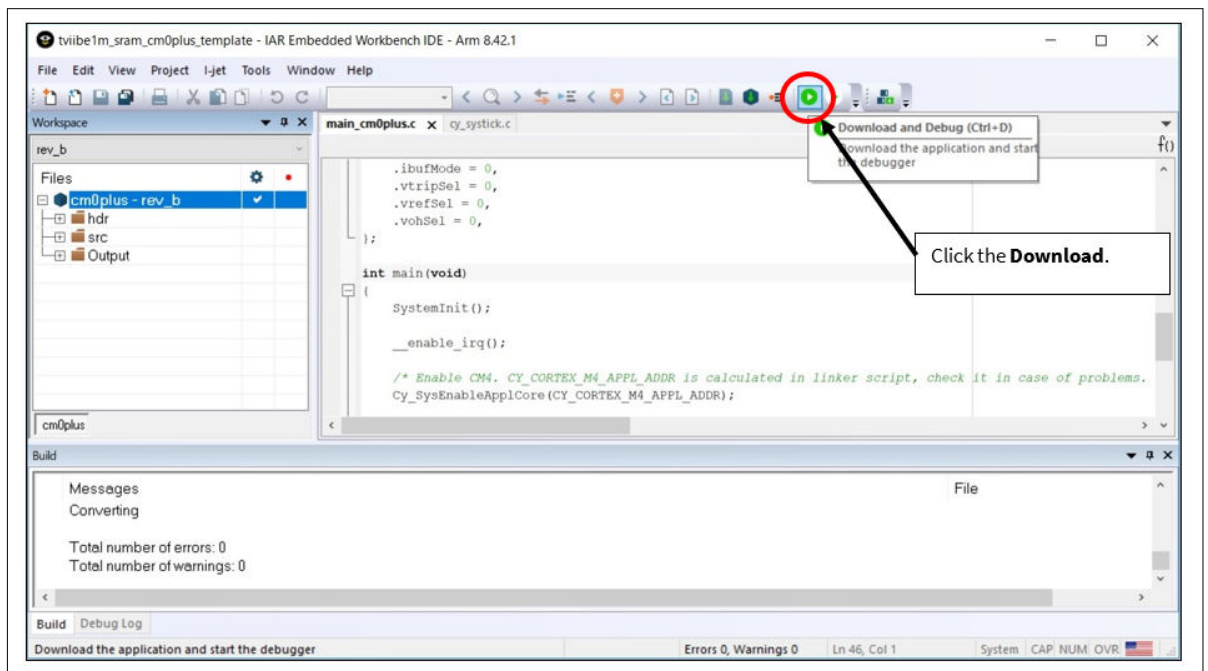

Figure 24 Debug the project of SDL project
3. To load the program to the RAM, click the **Download** icon as shown in Figure 24.